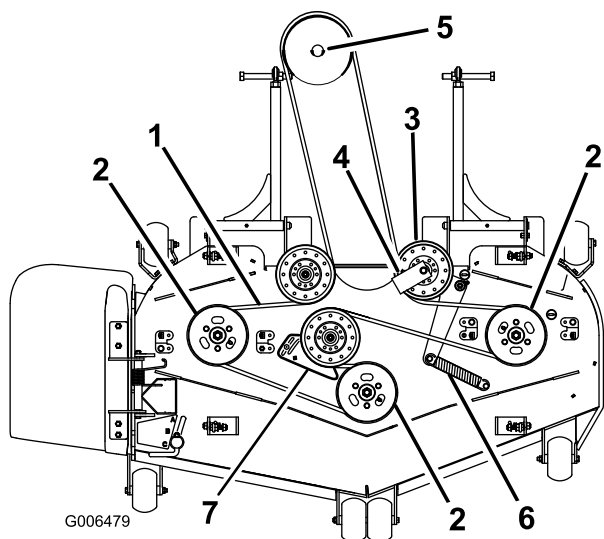
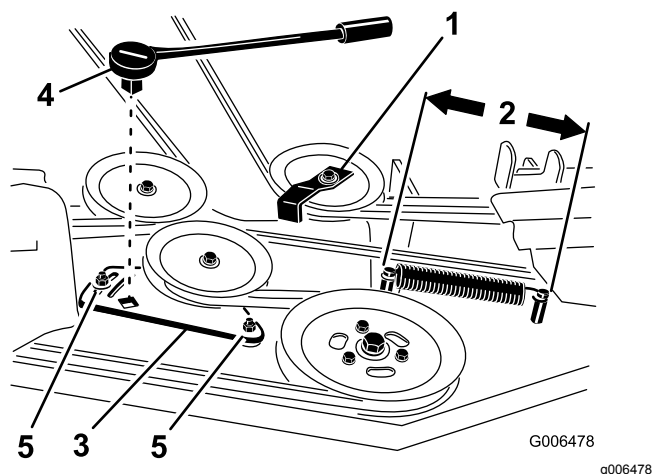

Figure 75
Figure 77
4. For 72 inch mowers, loosen the idler plate bolts holding the idler plate (Figure 77).
6. Remove the belt guide on the spring-loaded idler pulley shown in Figure 75 and Figure 77.
8. Install the new belt around the mower pulleys and the gearbox pulley under the engine (Figure 75).
9. Install the belt guide on the spring-loaded idler at a 45 degree angle as shown in Figure 75 and Figure 77. Torque the bolt to 37 to 45 N·m (27 to 33 ft-lb).
10. Install the idler spring to the 2 posts (Figure 75 and Figure 77).
4. Measure the spring length (Figure 77). If the spring length is between 25.4 to 26 cm (10 to 10-1/4 inches), from post to post, no adjustment is needed.
5. Loosen the bolts holding the idler plate (Figure 77).
6. Insert a ratchet or breaker bar into the square hole in the idler plate to adjust the tension (Figure 77).
7. Rotate the ratchet or breaker bar to move the idler plate until the idler spring is between 25.4 to 26 cm (10 to 10-1/4 inches) from post to post as shown in Figure 77.
8. While holding the belt tension and spring length, tighten the idler plate bolts that secure the idler plate (Figure 77).